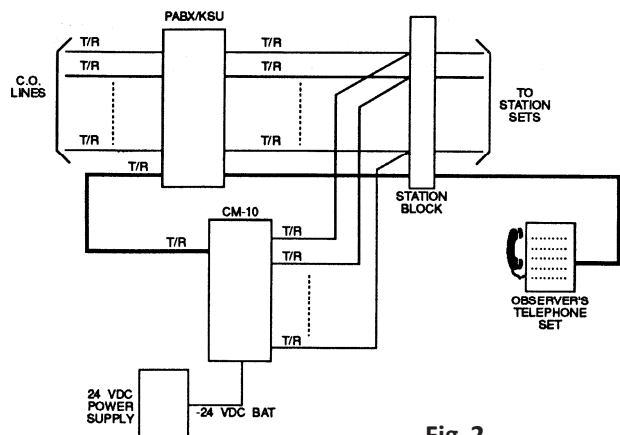

Fig. 2
- 2.3 **Central Office/Trunk Ports** may also be used to access the CM-10. By restricting access to that particular trunk, only designated stations will be allowed to monitor. Figure 2.